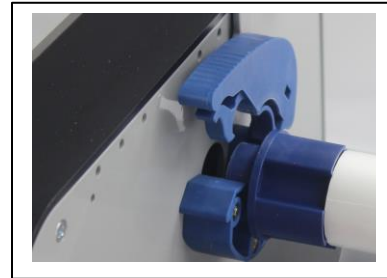

Figure 9
- N. **FILM SADDLES:** Film supply is loaded into the saddles (figure 9).